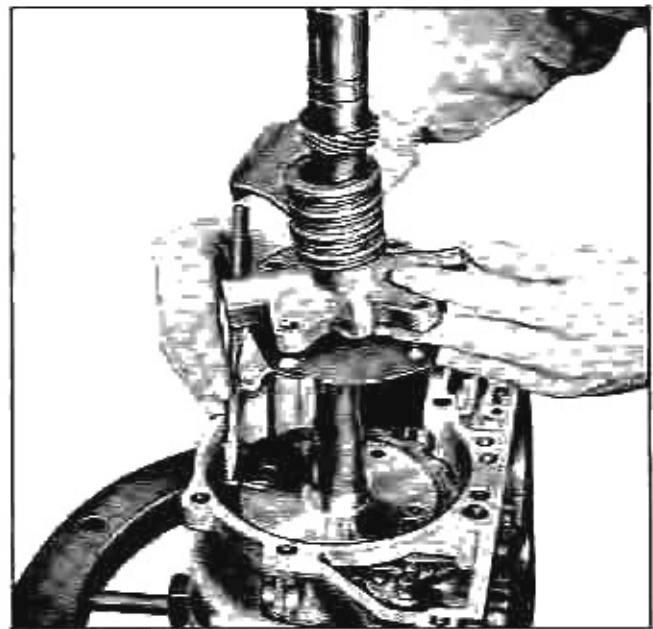

Fig. 50 Marking Output Shaft for Reassembly
11. Raise governor high enough to mark one dowel pin and nearest tooth on the output shaft flange with grease pencil for ease in reassembling. **CAUTION:** Do not abrade machined surface on output shaft flange (Fig. 50).